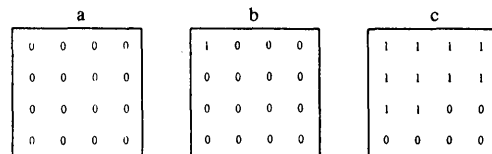

Figure 1 Addressing method of for 16 bit memory in the Marching pattern
- (1) Clear all bits See Fig. 1 (a)
- (2) Read "0" from 0th address and check that the read data is "0". Hereafter, "Read" means "checking and judging data"
- (3) Write "1" on 0th address. See Fig. 1(b)
- (4) Read "0" from 1st address.
- (5) Write "1" on 1st address.
- (6) Read "0" from nth address.
- (7) Write "1" on nth address See Fig. 1(c)
- (8) Repeat (6) to (7) to the last address. Finally, all data will be "1".
- (9) After all data become "1", repeat from (2) to (8) replacing "0" and "1".